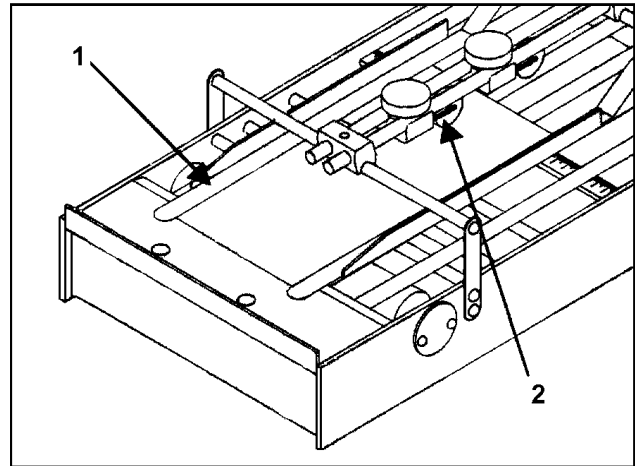

Figure 9
19. Adjust Retainer Straps [#1, Fig. 9] over Stop and Push Guide Tapes.
20. When envelope is against Front Stop Plate, position Front Skid Wheel [#2, Fig. 9] so it lightly touches trailing edge of envelope.